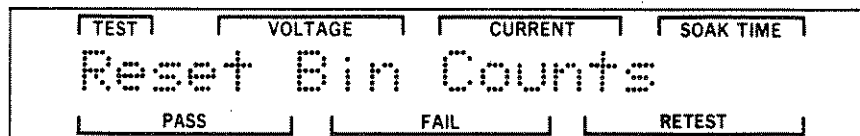

Figure 3-86. Reset Bin Count Totals Screen
STEP 2. Press the RIGHT pushbutton to access the Detail screens. Press the UP or DOWN pushbutton until the Reset Bin Count Totals screen is displayed. Figure 3-86 is an illustration of this screen.